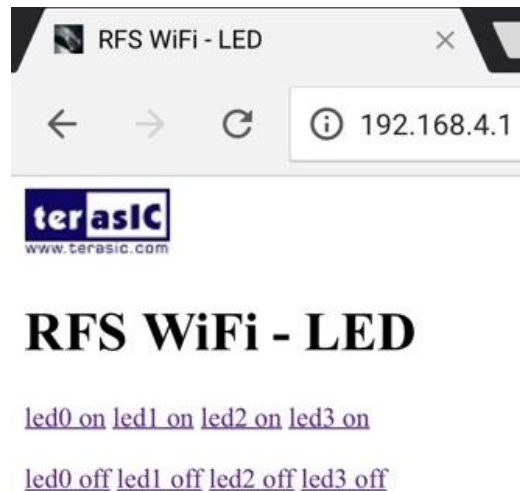

Figure 4-7 LED Control Web
This demonstration shows how to implement a simple Wi-Fi web server in such a way that users can directly use a mobile device to visit the web server. In the mobile device, a web server is used to client the web server. The web server provides the LED control interface as shown in **Figure 4-7**. Users can click the blue led text to lighten/un-lighten the LEDs on the FPGA main board.
8. Click led_on and led_off the control the LED on FPGA as shown in **Figure 4-7**.
8. Click led_on and led_off to control the LED on FPGA as shown in **Figure 4-7**.